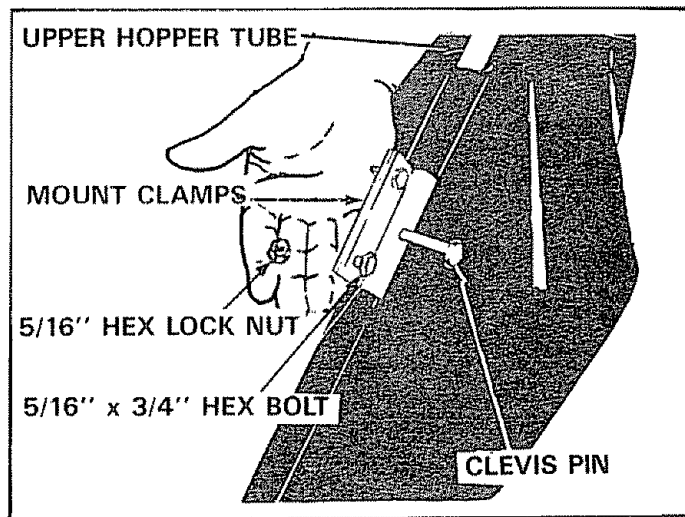

FIGURE 21
13. Assemble mount clamps to each side of upper hopper tube. Place one clevis pin through clamps, hopper bag and hopper tube, then secure clamps together with two 5/16" x 3/4" hex bolts and 5/16" lock nuts. See figure 21. Tighten securely.